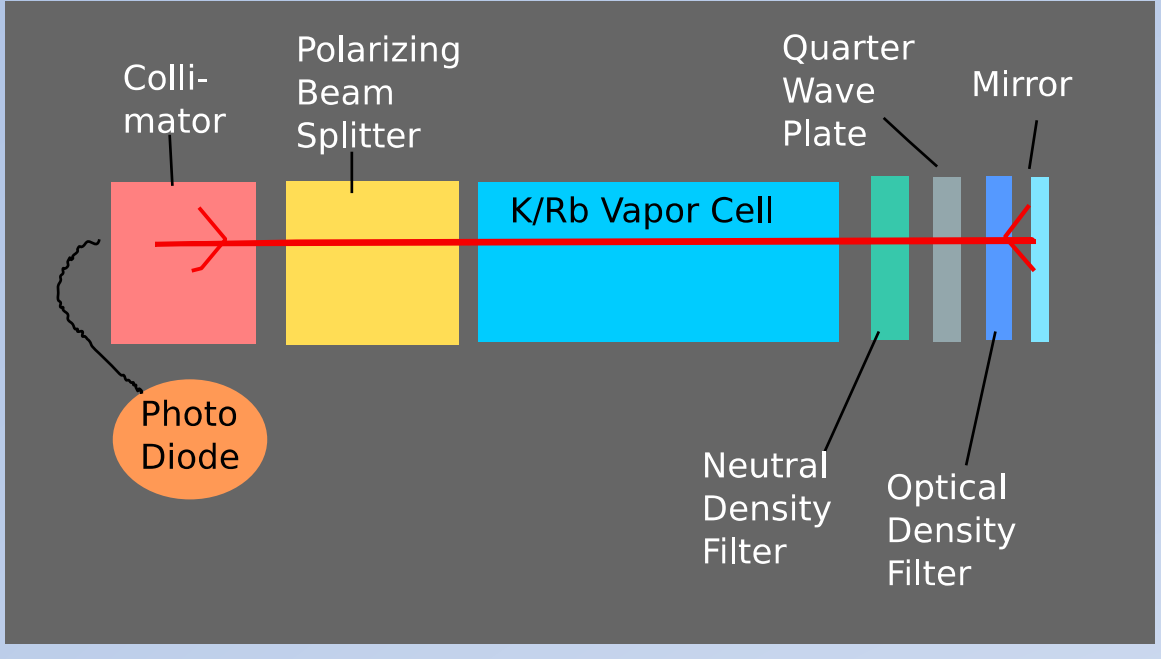

Figure 5: Saturated absorption spectroscopy module used to verify laser frequency or wavelength.
- Two counter-propagating laser beams (the *pump* and *probe* beams) at the same frequency interact with the same velocity subgroup of atoms in a vapor cell (see Figure 5 below).